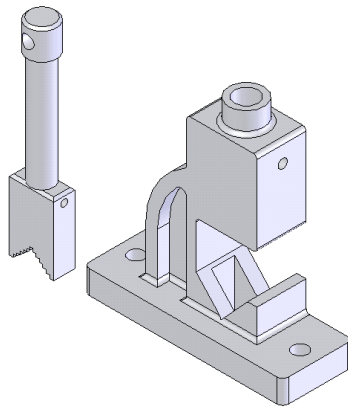

Figure 10-78 The Screw assembled with the Moveable Jaw
12. Choose the **OK** button from the **SmartMates PropertyManager**. Figure 10-78 shows the Screw after applying the mates.